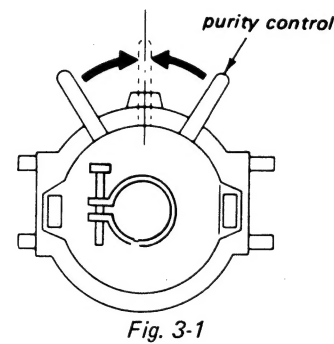

Fig. 3-1
- 3 Loosen the deflection yoke mounting screw, and set the purity control to the center as shown in Figure 3-1.